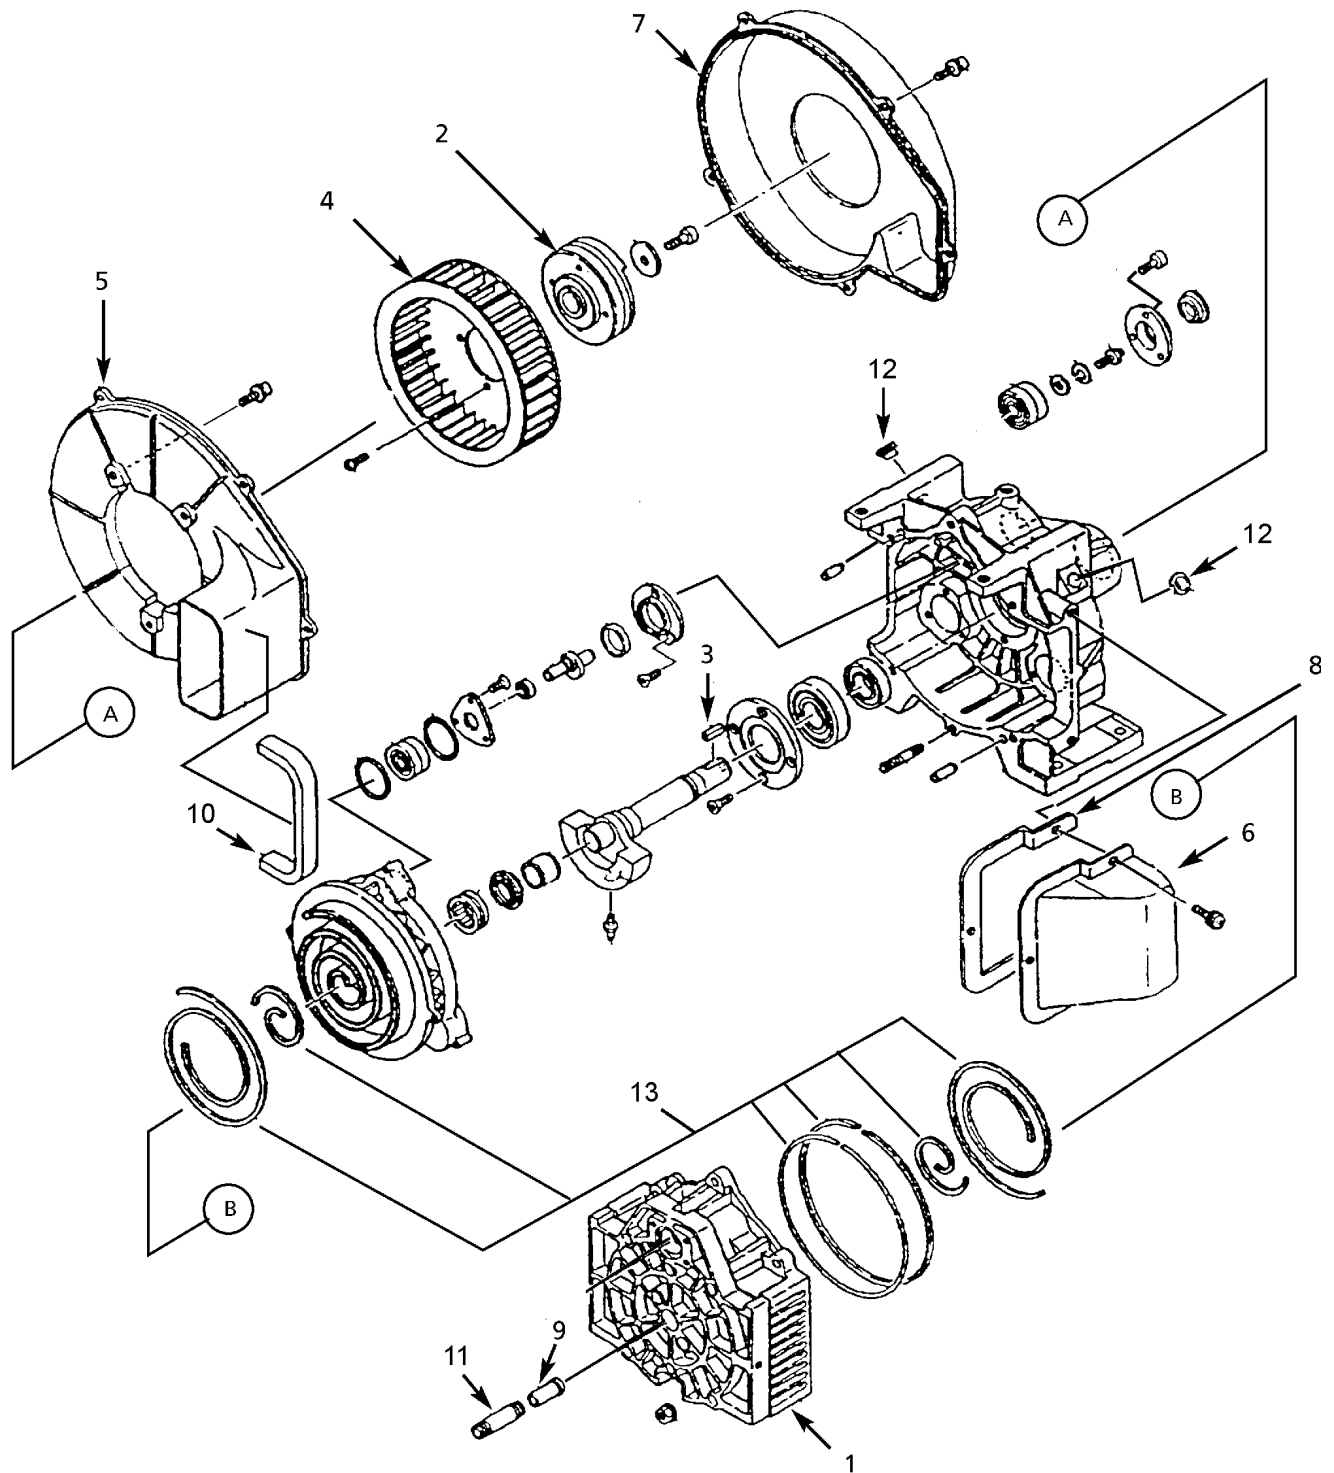

Figure 12. Scroll Compressor Parts.
Table 2 and Figure 12 for the parts list and illustration of the scroll compressor assembly.
Table 2. Parts List For Figure 12.
- Remove the fan cover (Figure 12, item 7).
- Remove the air end pulley and centrifugal fan using a gear puller (Figure 12, items 2 and 4).
- Remove the entrance fan duct (Figure 12, item 5).
- Install the fan entrance duct (Figure 12, item 5).
- Install the air end pulley and centrifugal fan (Figure 12, items 2 and 4).
- i. Install the fan cover (Figure 12, item 7).